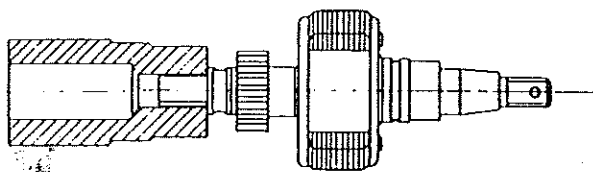

Figure 902. Installing Cam End Bearing Inner Race
(2) Six cylinder magnetos incorporate a small gear (67) which has a chamfer on only one end of the tooth. There are no arrows on this gear. Chamfered end of tooth must be toward magnet when installed.
- B. Place plain washer (66) on shaft next to small gear, followed by original shim washers (65). Using small end of the 11-6924-1 Pressing Tool and an arbor press, press inner race of new bearing (64) on magnet shaft lettered side out. See Figure 902.